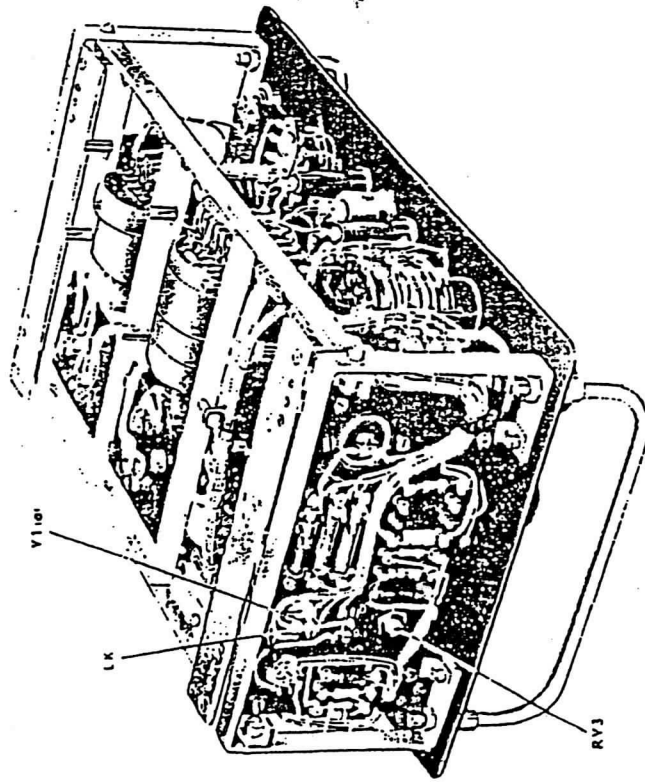

FIG. 11.
19. Use a D.C. Valve Voltmeter with an input impedance greater than 1M Ω , e.g. the "AVO" Electronic Test Meter, or the Multimeter Electronic C.T.38. The meter should be standardised at the appropriate voltages before making any adjustment mentioned in the following sections. When using the Valve Voltmeter Model 26, a potential divider should be used as in Fig. 11.